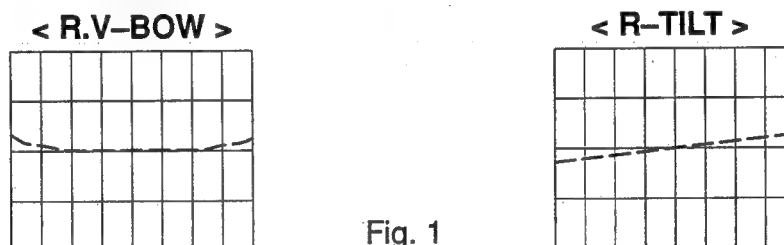

Fig. 1
- (10) Next, reset all data for the dynamic convergence adjustment by following this procedure.
- (11) Since green (G) is the reference colour for this set, dynamic convergence adjustment should be done with green (G) at first.
- (12) Do adjustment for horizontal linearity and static convergence with a variable resistor R7306, in case it is necessary.
- (13) After finishing these procedures, do adjustment for static convergence.
- (14) Next, do the adjustment for dynamic convergence of red (R) to overlap on the green (G).
- (15) If the dynamic convergence of red (R) is unable to overlap well on the green (G) as shown in Fig 1, do the adjustment for each variable resistor R7326 (R.V-BOW) and R7323 (R-TILT).